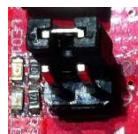

Figure 3. P1.6 Jumper
3. Remove P1.6 jumper for I2C operation (see Figure 3).